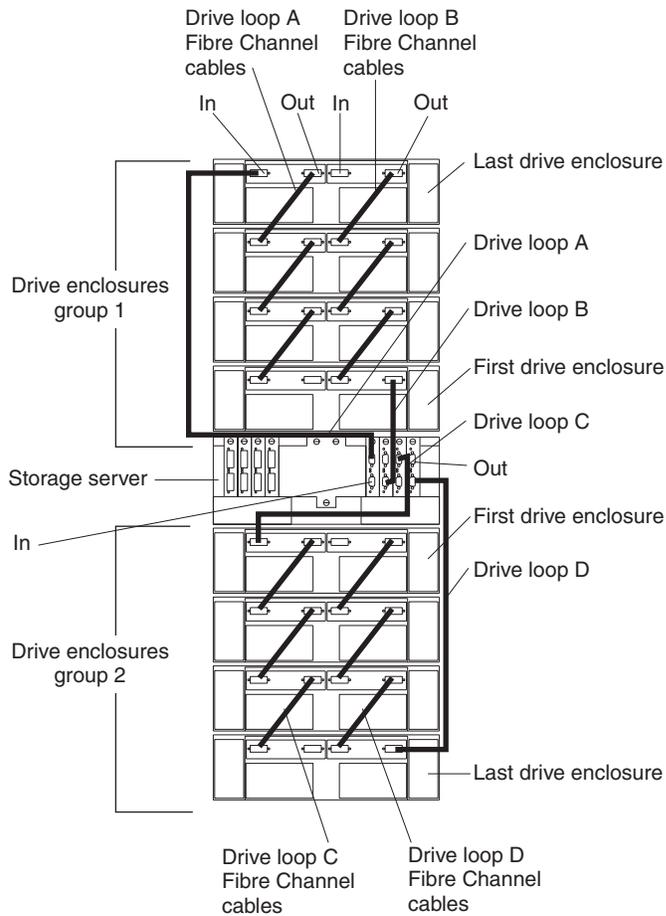

Figure 48. Connecting two redundant drive enclosure groups
3. Connect drive loop C to the FAST900 Storage Server, as shown in Figure 48 on page 46. Starting with the first drive enclosure in drive enclosure group 2, connect the In port on the left ESM board to the Out (upper) port on drive mini hub 2. Leave the Out port on the left ESM board on the last drive enclosure in drive enclosure group 2 and the In (lower) port on the drive mini hub 2 unoccupied.
4. Connect drive loop D to the FAST900 Storage Server, as shown in Figure 48 on page 46.